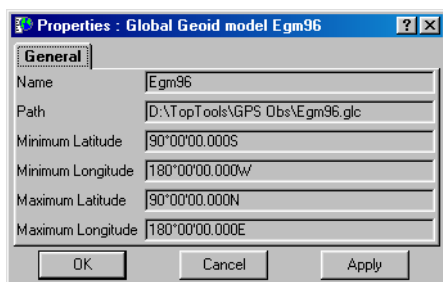

Figure A-3. Global Geoid Model Properties
4. To check the installation, right-click the global geoid on the **Geoids List** dialog box and click **Properties** on the pop-up menu. The **Properties** dialog box displays the selected geoid's information (Figure A-3).